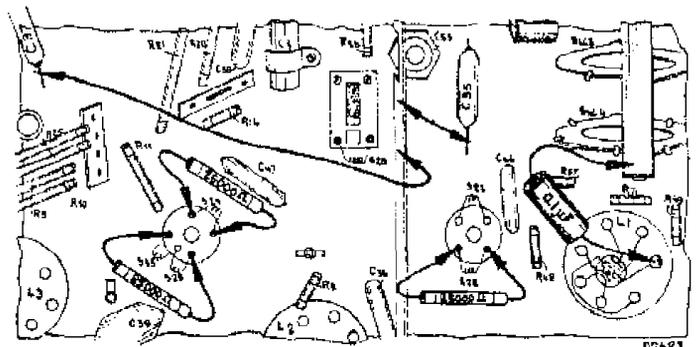

Fig. 3.
6. Render A.V.C. inoperative by short-circuiting C35 and C37 (see Fig. 3).
9. Shunt S24 with 25,000 ohms resistance (see Fig. 3).
13. Shunt S25-S35 with 25,000 ohms resistance (see Fig. 3).
16. Shunt S24 with 25,000 ohms resistance (see Fig. 3).
19. Shunt S22 with 25,000 ohms resistance (see Fig. 3).
25. Shunt S22 with 25,000 ohms resistance (see Fig. 3).
7. Earth grid of the triode part of L1 through an  $0.1 \mu\text{F}$  condenser (Fig. 3), and tune on service oscillator to 550 K.C. (545 m.).
4. Earth the grid of the triode section of L1 through  $0.1 \mu\text{F}$  condenser (see Fig. 3).